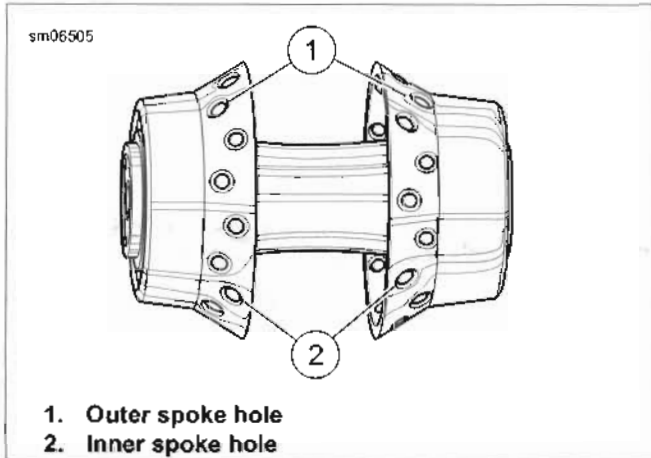

Figure 2-12. Angle Flange Hub
- See Figure 2-12. The following procedure is valid for wheels that use an angle flange hub regardless of rim style or diameter.